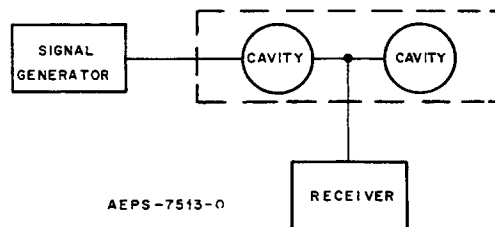

Figure 8.
(2) Tuning Procedure (refer to Figure 8)